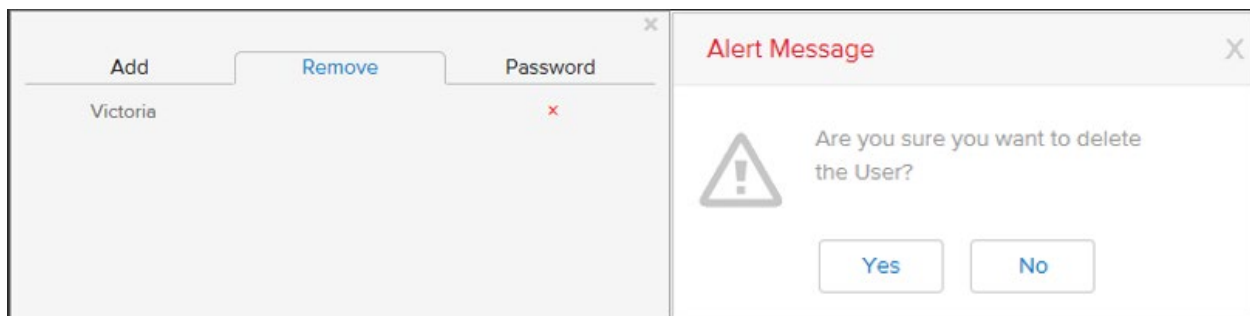

Figure 47 - Remove a User
4. To remove a user (Refer to Figure 47).